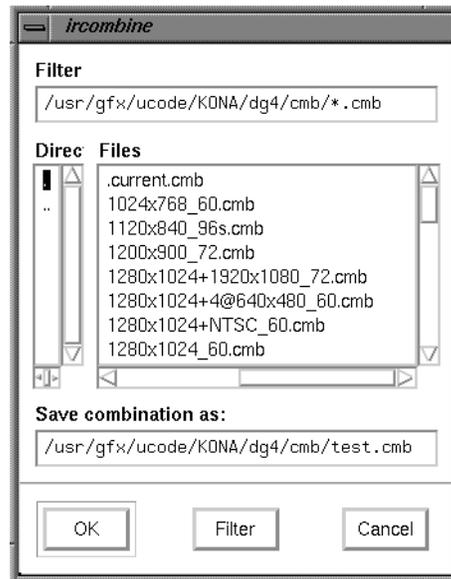

Figure A-11 Save a Combination
7. From the File pulldown menu in the Combiner main window, select Save As. The ircombine window appears (see Figure A-11).